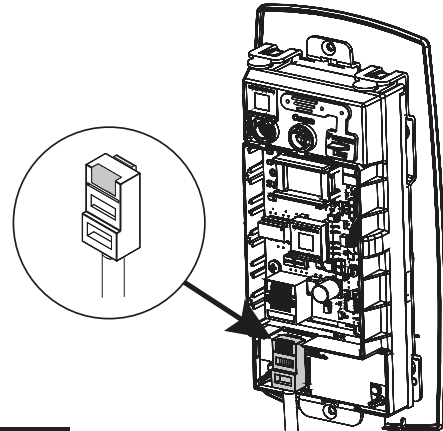

Figure 15a
Before inserting PoE plug into PoE connector, apply dielectric grease to top of plug, covering the pin area (Figure 15a).
1. Once controller is securely in place, connect RJ45 male connector to female RJ45 port on controller board. (Figure 15a)